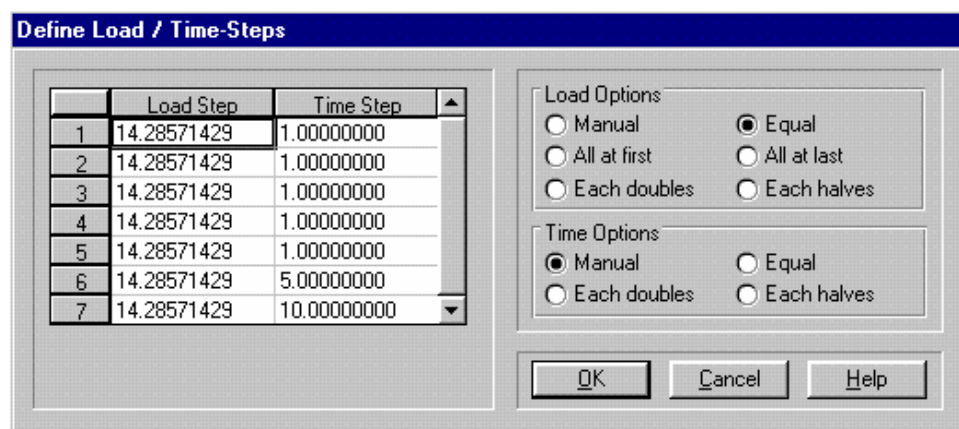

Figure 2-11: Defining Load and Time Steps
- Step 10** The Define Load/Time Steps dialogue box should now look like Figure 2-11. Click on **OK** to return to the Increment Block dialogue box, once you have finished.